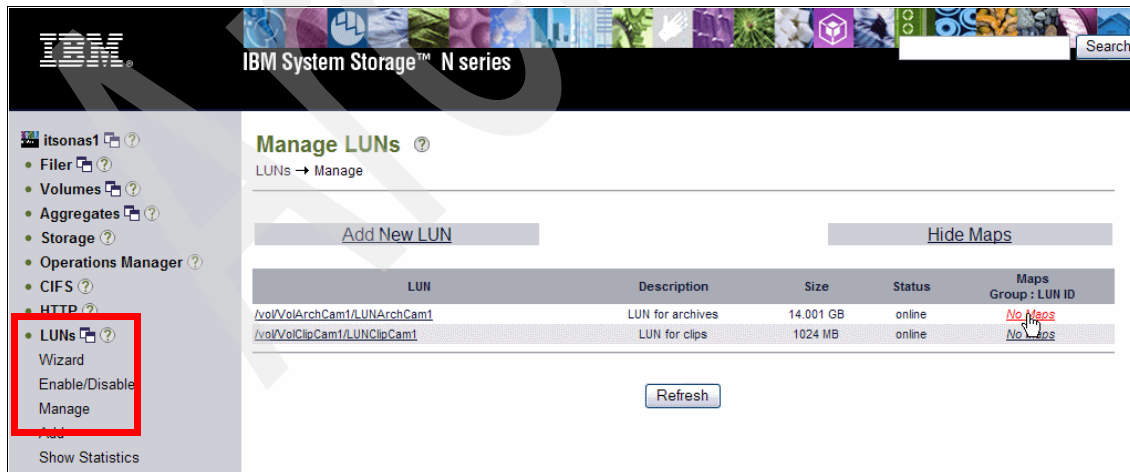

Figure 7-30 Mapping definition
- Under **LUNs** → **Manage**, Figure 7-30 is displayed. Look in the column Maps Group: LUN ID, and see that the value in the field is **no maps**, which means that no mapping was defined. Click the **No Maps** link.